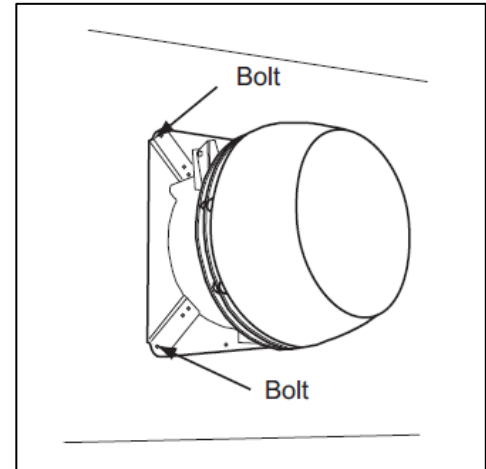

FIGURE 32
5. To ease installation, detach the fan base by removing the bolts holding the hinges together. Center the fan base over the outlet and bolt the base onto the wall with the hinges pointing upwards. (**Figure 32**)